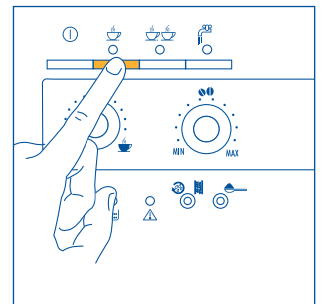
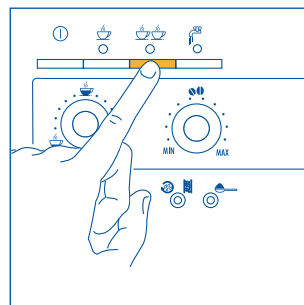

Fig. 12
Fig. 13
- 5) Press the  button (Fig. 12) to make one cup of coffee or the  button (Fig. 13) to make 2 coffees. *At this point the machine grinds the beans, runs a short pre-infusion cycle, a pause and then completes the delivery.*
**NOTE 4:** while the machine is making the coffee, the delivery can be stopped at any time by pressing the ☺ button (Fig. 12) or ☺☺ button (Fig. 13), as previously selected.
**NOTE 5:** as soon as delivery is complete, to increase the quantity of coffee, simply press and hold the ☺ button (Fig. 12) or ☺☺ button (Fig. 13), as previously selected, until the desired quantity is reached (this operation must be performed within 3 seconds from when coffee delivery from the spouts ceases).